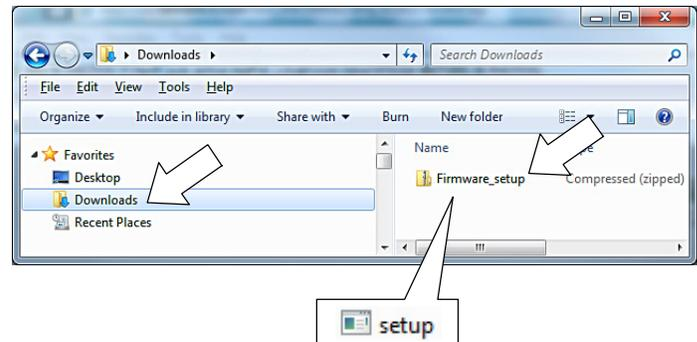

Fig. 29
6. Open the “Downloads” folder and locate the “Firmware_setup” zip file. Open the zip file and click on the “setup” file to install the application software on your computer (Figure 29).